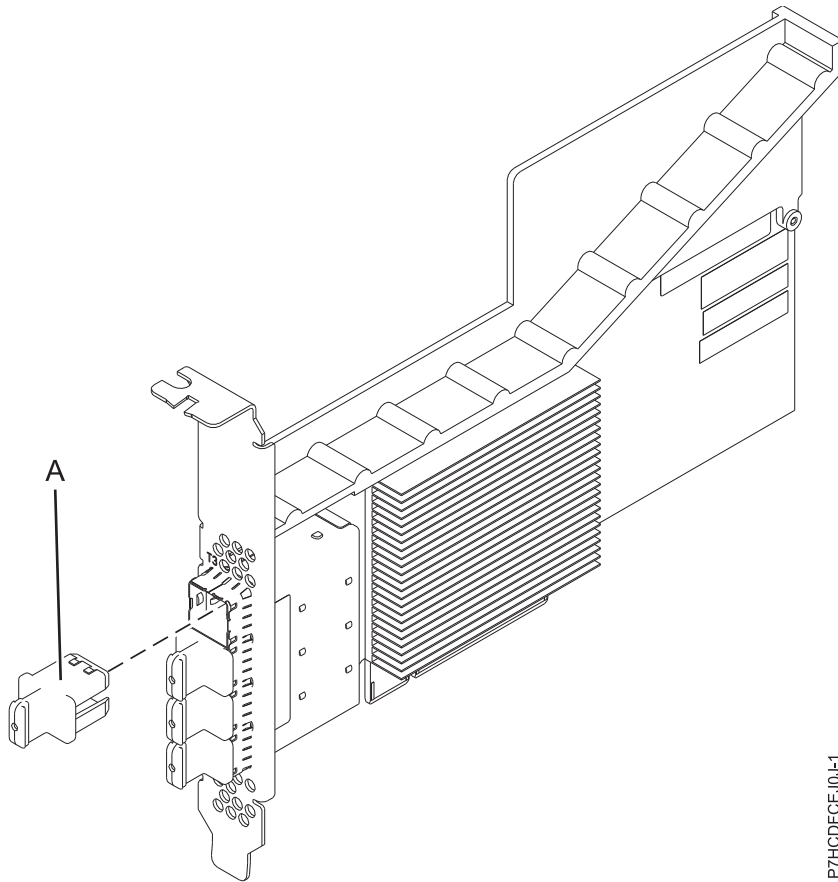

Figure 30. PCIe3 4 x8 SAS Port Adapter
The PCIe3 4 x8 SAS Port Adapter is a PCI Express (PCIe), generation 3, RAID SAS adapter that has a low-profile, short-form factor, but packaged for full height installation. The adapter is used in high-performance and high-density, serial attached SCSI (SAS) applications. It supports the attachment of SAS DVD or SAS tape by using four mini SAS high-density (HD) x4 connectors that allow the physical links to be used in various narrow and wide-port configurations. SAS tape attachment is only supported in a single adapter configuration and cannot be mixed with SAS disk on the same adapter. The adapter does not have write cache. Figure 30 on page 89 shows the PCIe3 4 x8 SAS Port Adapter.
Figure 30 on page 89 shows the adapter. The connector plug (A) is installed in an empty port and prevents damage to that port whenever a cable for the adjacent port connectors is plugged-in or removed.